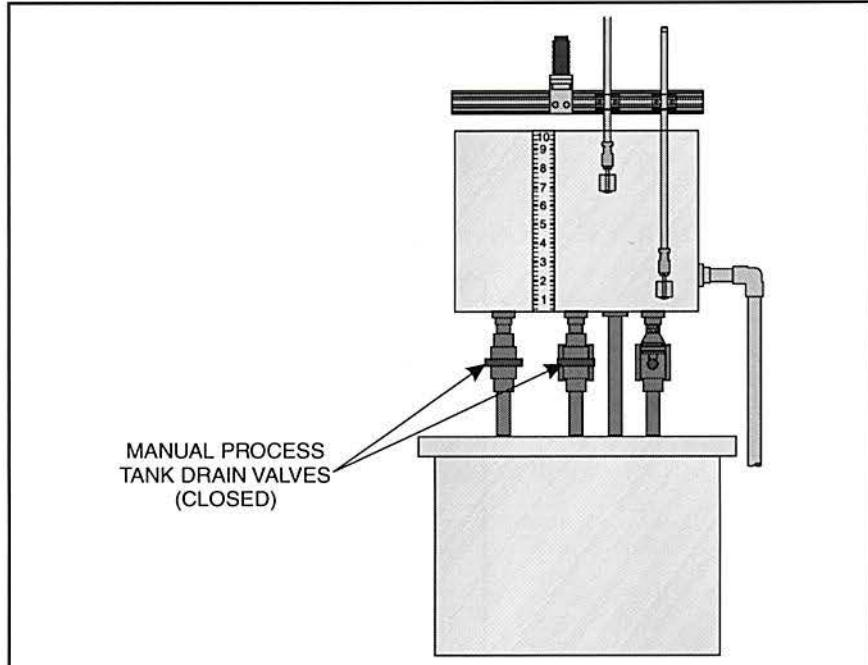

Figure 52. The Two Manual Drain Valves for the Process Tank
- F. Make sure the two manual process tank drain valves, as shown in figure 52, are closed (turned fully clockwise).